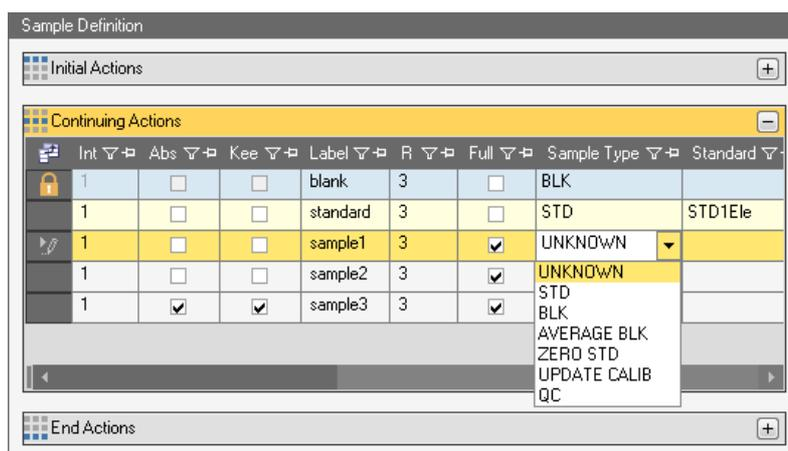

Figure 5-9. Sample Type drop-down in Template Sample Definition
4. Select a **Sample Type** from the drop-down list, see Figure 5-9.